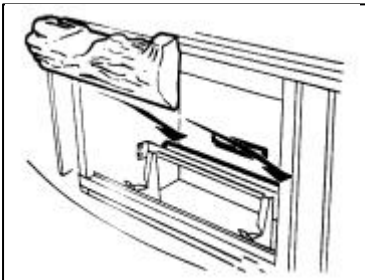

Fig. 14 Rear Log Location
10.2.1 Place the rear log (the log with only one short stub) in the retaining cradle behind the rear burner tube with its back against the firebox back wall (Fig.14). The short stub should be at the top right of the log. Centre the log so that the gap to the firebox walls is the same at each side.